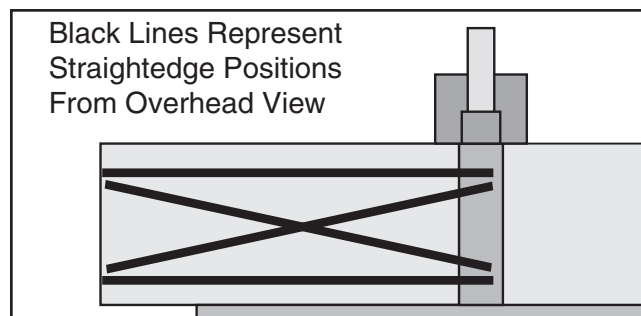

Figure 50. Straightedge positions for verifying if outfeed table is parallel with cutterhead.
6. Place the straightedge in the positions shown in **Figure 50**. In each position, the straightedge should touch the cutterhead body (without touching any inserts) and sit flat on the outfeed table.